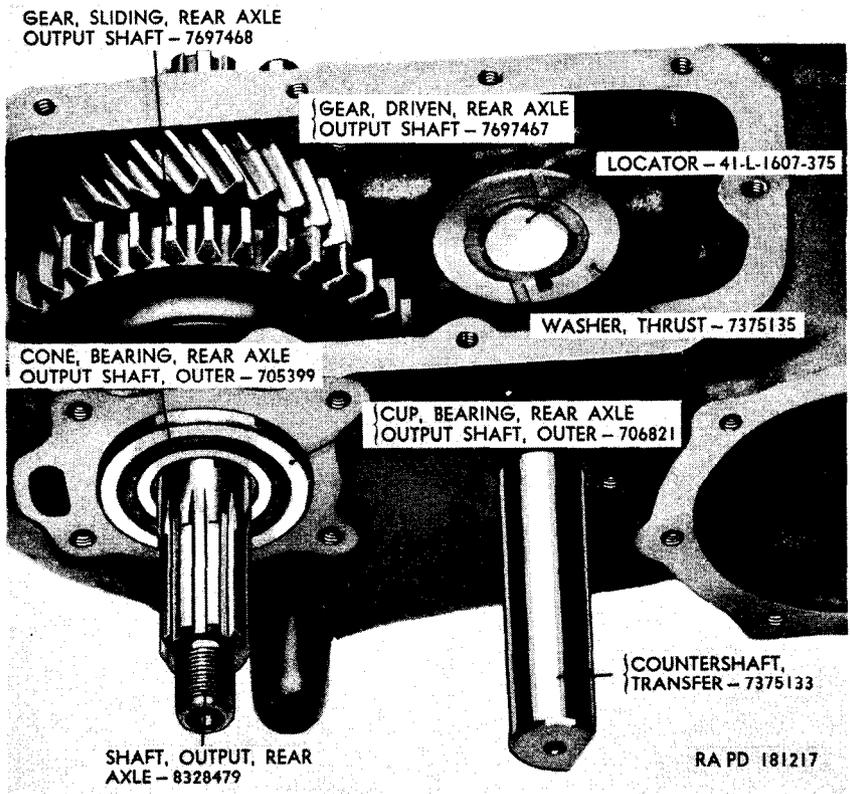

Figure 81. Positioning countershaft gear thrust washer with locator—
a. *Install Countershaft Gear Journal Roller Bearing.* Insert the two countershaft gear journal roller bearings (PP) in bore of the countershaft gear (AA).
b. *Install Transfer Countershaft.* Apply a thick coat of universal gear lubricant (GO) to the countershaft gear thrust washer (QQ) and place in position inside of transfer case. Start the transfer countershaft (RR) through transfer case (U) just enough to hold the thrust washer from slipping. Apply a thick coat of universal gear lubricant (GO) to the countershaft gear thrust washer (BB) and place in position within transfer case. Insert locator 41-L-1607-375 through countershaft opening, in transfer case, so that countershaft gear thrust washer is over it as shown in figure 81. Position the countershaft gear, with journal roller bearings installed, between the two gear thrust washers. Tap the transfer countershaft through countershaft gear and opposite side of transfer case thereby removing the locator.